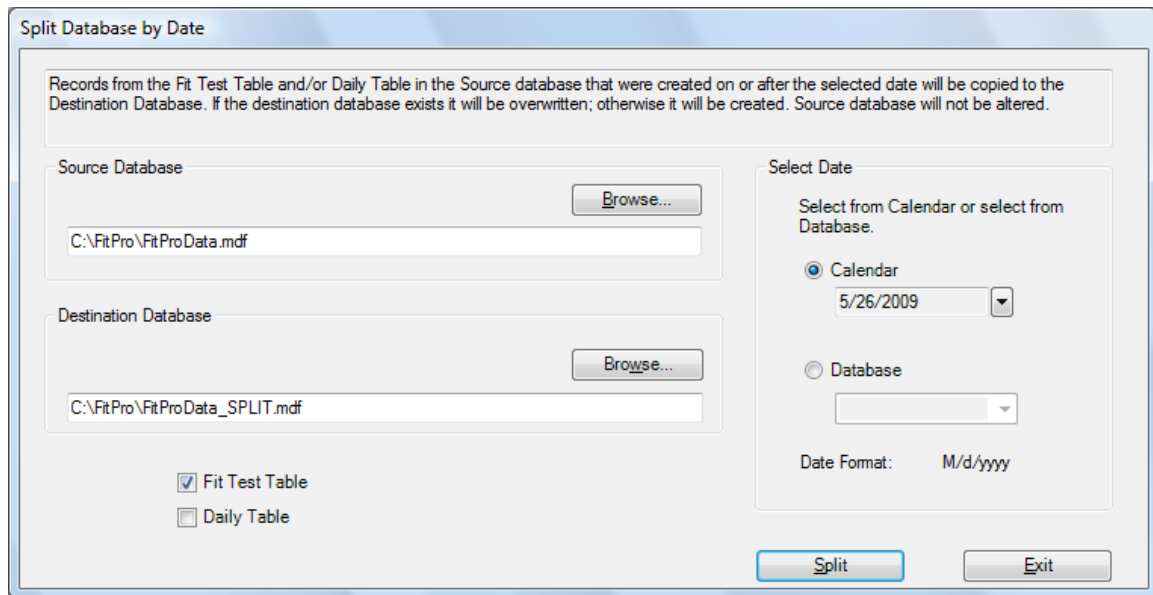

Figure 30. Split Database by Date Dialog
1. Select **Database** | **Utilities** | **Split Database**. The Split Database by Date dialog (Figure 30) appears.